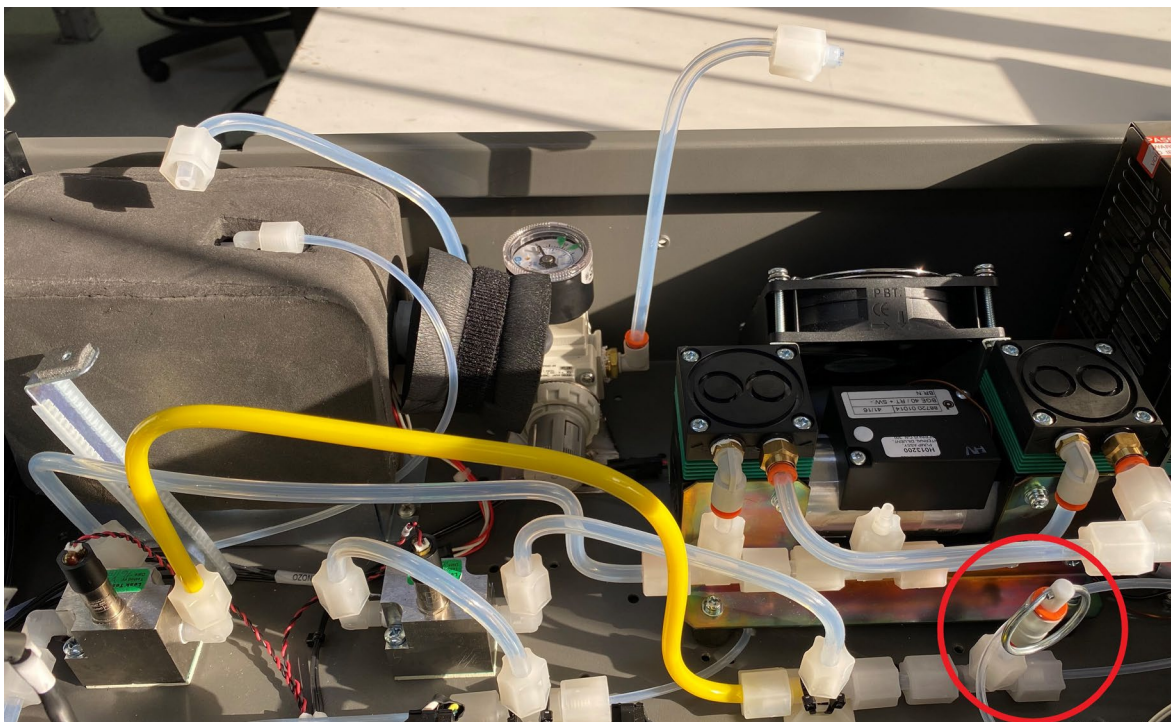
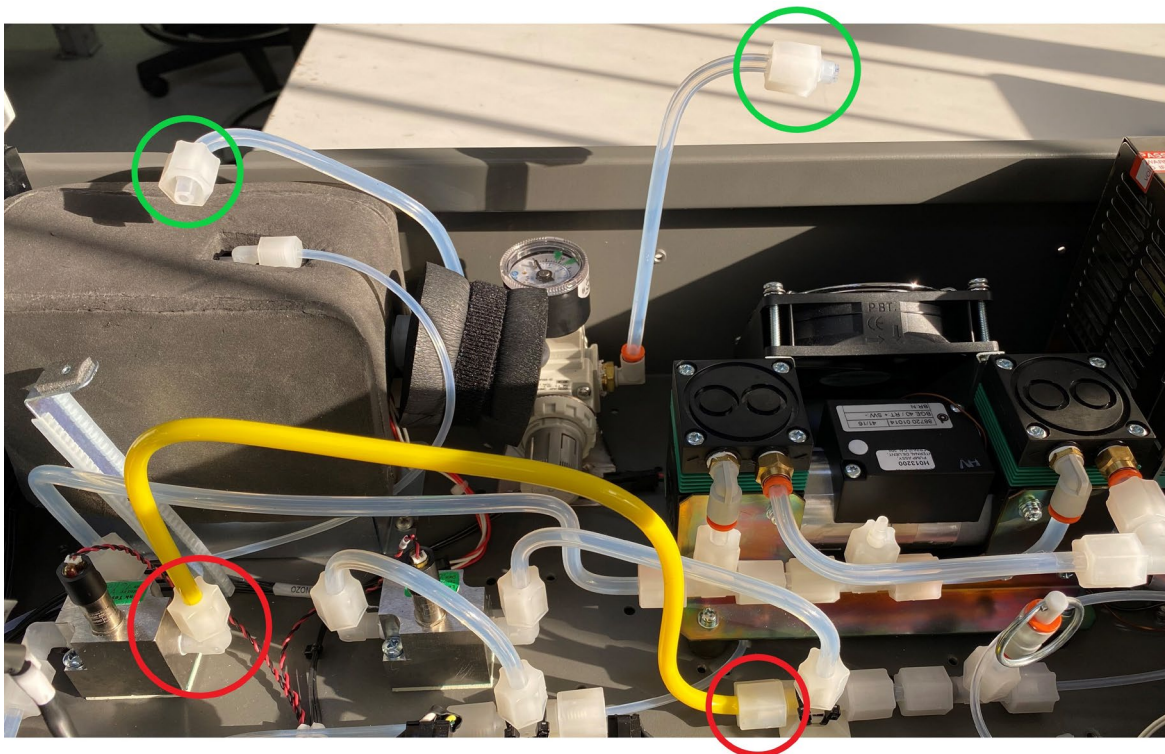

Figure 73 – Blocking Reference Air Vent
Figure 74 – Isolating Pressure Regulator
3. Locate the reference air vent tube and block as seen in Figure 73.
4. Disconnect the tubing as marked by the red circles in Figure 74. Connect a piece of bypass tubing between the tee and the diluent valve manifold as shown in Figure 74. The pressure regulator has an internal bleed valve and your leak test **will not work** if the pressure regulator is not isolated.
- The full leak check is complete. Remove the blocker on the reference air vent (Figure 73) and remove the pressure regulator bypass and reconnect the tubes marked with green circles as seen in Figure 74. Enable **Valve Sequencing** and return operation mode to original state.